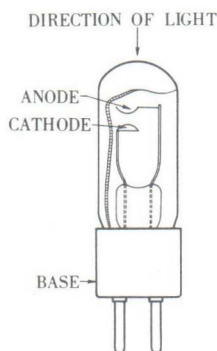

FIG. 1
- As shown in Fig.1. the R184 consists of activated photocathode and inert gas which is enclosed in the bulb under a certain pressure. When photoelectrons are emitted from the photocathode they ionized the inner gas, as a result of ionization a discharge operation begins. Especially, the R184 have a fused-silica bulb to obtain ultraviolet sensitivity below 2000 angstroms.